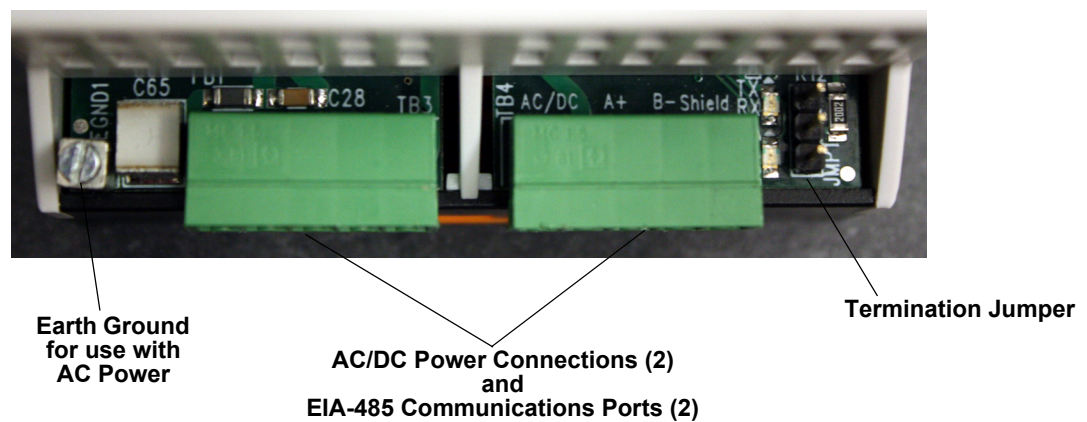

Figure 2.4 Power and Communications Connections (TB3 and TB4) and Termination Jumper (JMP)
- Figure 2.4 Power and Communications Connections (TB3 and TB4) and Termination Jumper (JMP) 15